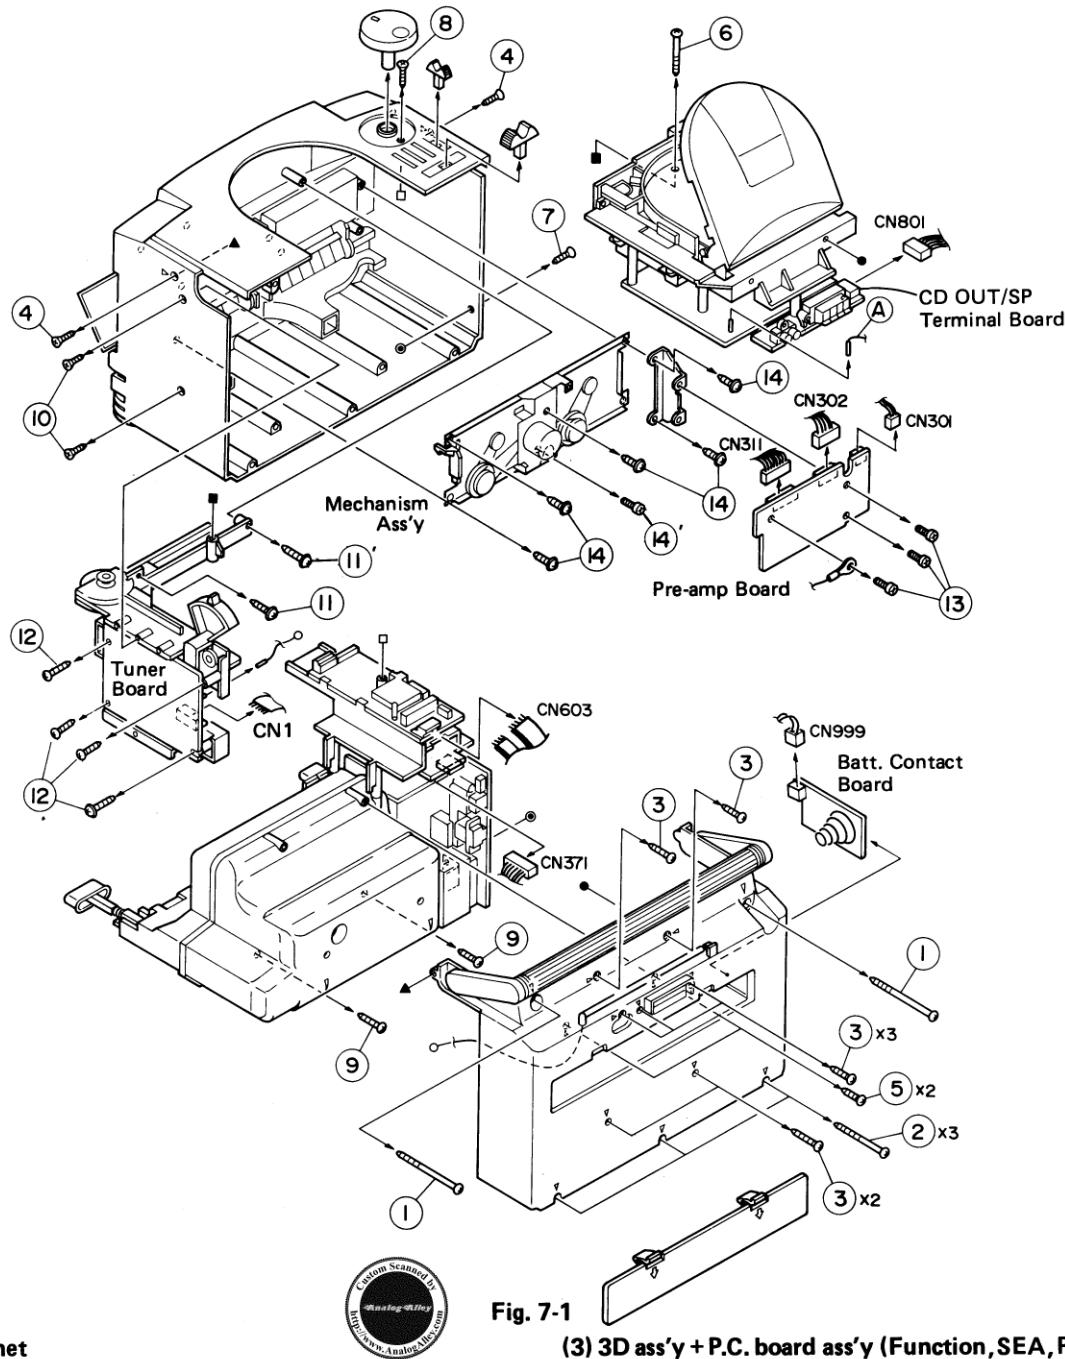

Fig. 7-1
#### (4) Tuner board (Fig. 7-1)